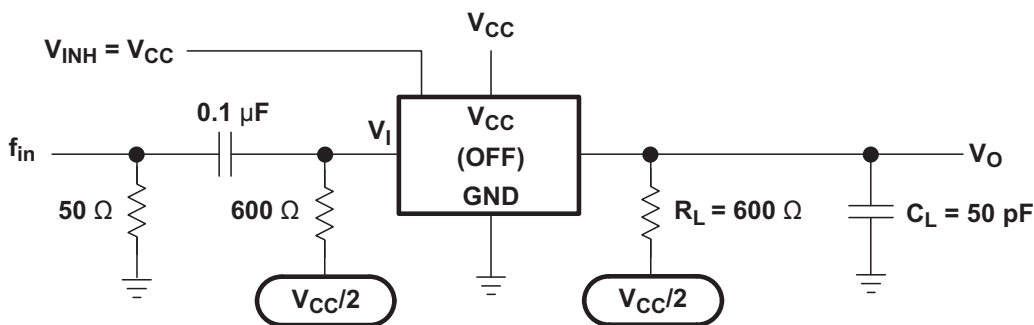

Figure 10. Feedthrough Attenuation (Switch OFF)
| Feedthrough attenuation (switch off)       | COM or Y     | Y or COM    | $C_L = 50 \text{ pF}$ , $R_L = 600 \Omega$ ,$f_{in} = 1 \text{ MHz}$ (sine wave)(see Figure 10) (2) | $V_{CC} = 2.3 \text{ V}$                          |     | -45  |     | dB   |